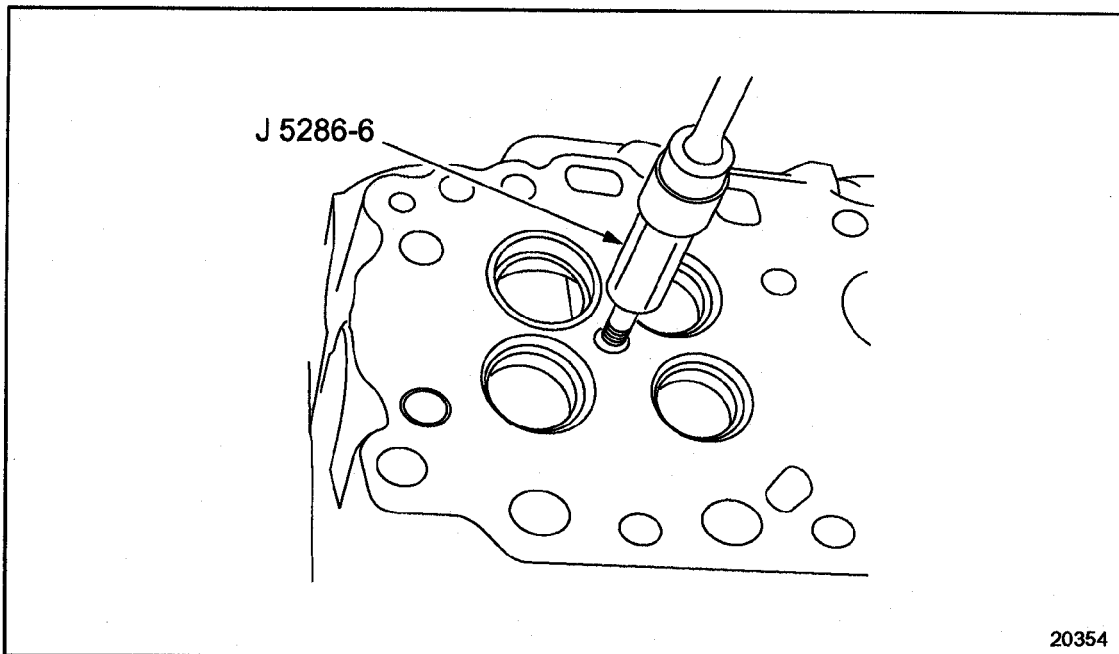

Figure 2-18 Flaring Injector Tube Tip
7. Using a torque wrench and 12-point, 29/32 in. socket, screw J 5286-6 into J 33880-4 until it begins to flare the tube. See Figure 2-18.